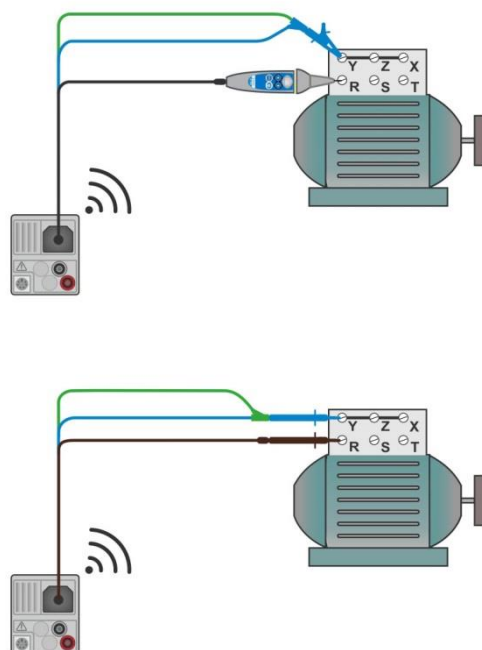

Figure 7.25: Tip commander and 3-wire test lead applications
- › Connect test leads to device under test, see **Figure 7.25**.